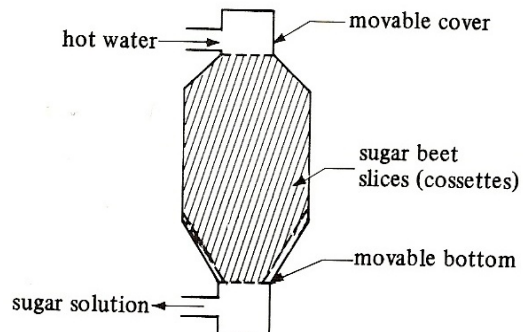

FIGURE 12.8-1. Typical fixed-bed apparatus for sugar beet leaching.
- Figure 12.8-1 shows a typical sugar beet diffuser or extractor.